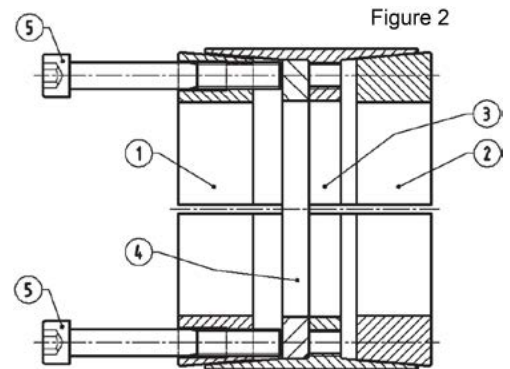

Figure 2
(Refer to Figures 2 and 3)
2. Remove all locking screws. Transfer required number of screws into all push-off threads of clamp collar Item 1 (see Figure 2).
2. Loosen all locking screws by a minimum of four (4) turns and transfer at least two (2) screws to push-off threads in clamp collar Item 1 to disengage this part from center collar Item 3. Similarly, transfer at least two (2) screws to push-off threads in center collar Item 3 to disengage this part from clamp collar Item 2 (see Figure 2).
3. Completed assembly can now be placed on shaft and inserted into hub bore by pushing against face of collar Item 1 and heads of locking screws threaded into collar item 2. This ensures collar Item 2 is not engaged at tapers during this phase.